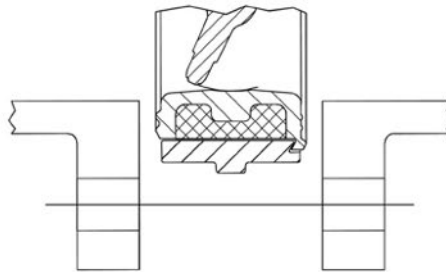

fig. 2
- In the course of inserting the valve between the flanges and blocking them, the disc must be kept in a half-open position without exceeding the valve edges (Fig. 2).